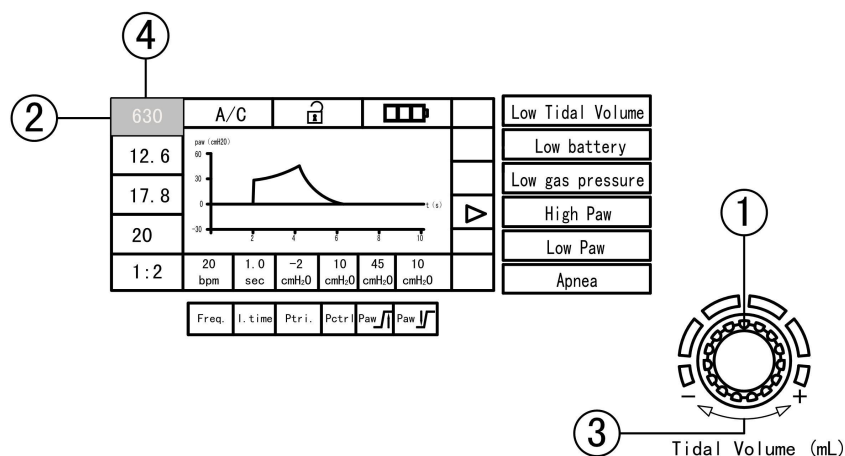
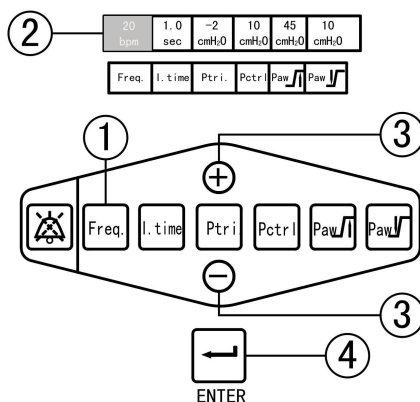

Figure 14 Tidal volume setting
Figure 15 Parameter setting
As shown in Figure 14, Press tidal volume key ① for 3s, tidal volume monitoring window ② invert color, ④ is the memory tidal volume, adjust the tidal volume knob by knob ③.
(3) Other parameters setting: Frequency、inspiration time、trigger time、pressure upper limit、pressure lower limit etc parameters can be set in this area.
As shown in figure 15, press frequency key ①, the frequency window ② invert color, press “+”-“key ③ to set the frequency, then press  to confirm and finish the setting.